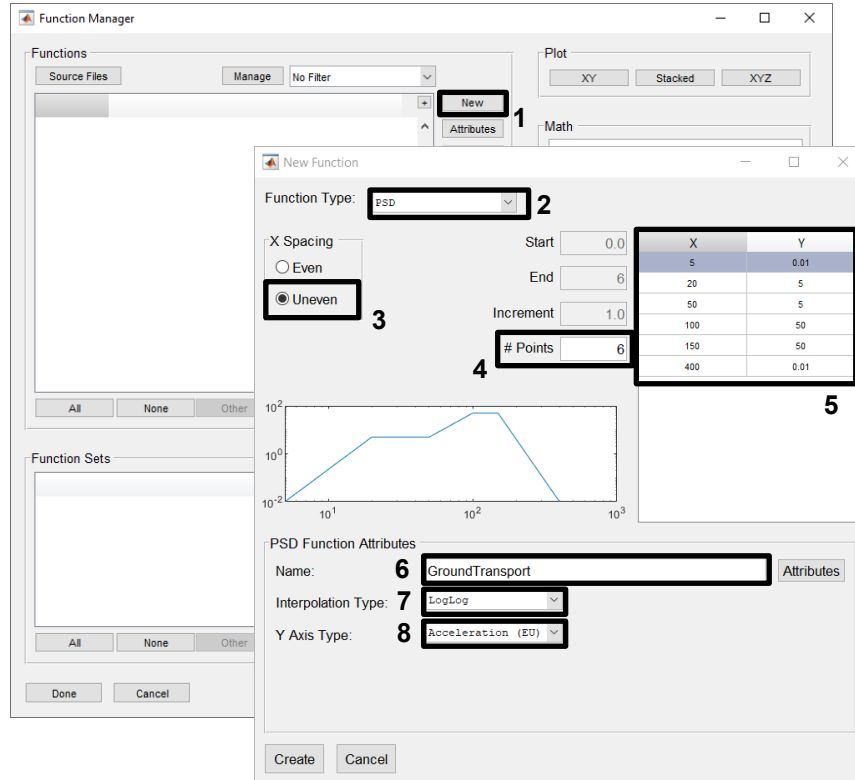

Figure 4-38. Create the acceleration PSD that will be used to excite the Isat.
2. In the Function Manager, click **New** to bring up the *New Function* dialog. As shown in Figure 4-38, set the *Function Type* to *PSD*, the *X Spacing* to *Uneven*, and the number